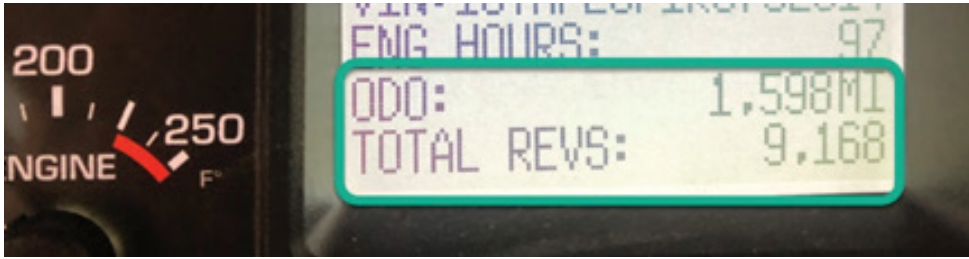

Figure 3
7. Record odometer and total drum revolution values if instrument cluster requires a software update. When in the diagnostics screen press the instrument cluster left-side button to exit, then press right-side button to scroll to ODO. See Figure 3. These values can also be found in overhead display About Screen.